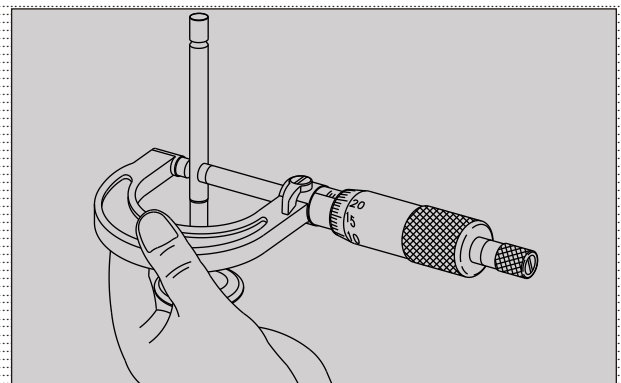

Fig. 3.141
- Measure outside diameter of valve stem on the operational area. (Fig. 3.141)